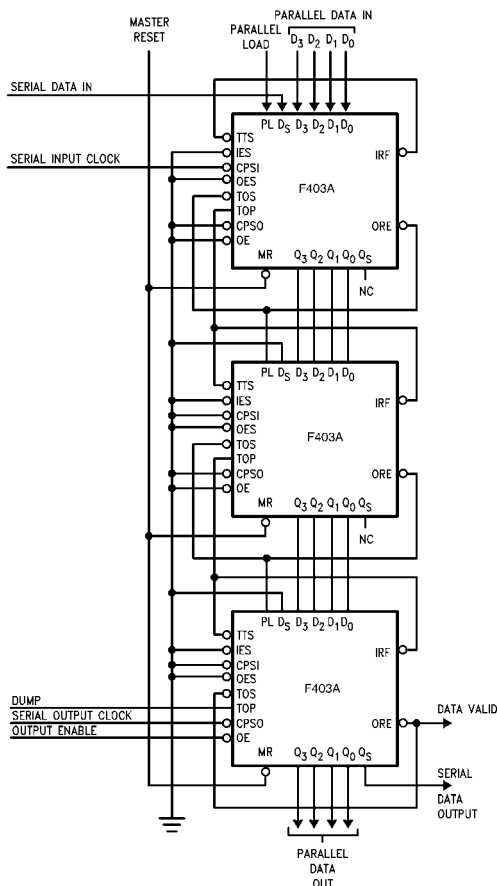

FIGURE 4. A Vertical Expansion Scheme
**Vertical Expansion—** The 74F403A may be vertically expanded to store more words without external parts. The interconnection is necessary to form a 46-word by 4-bit FIFO are shown in Figure 4. Using the same technique, and FIFO of  $(15n + 1)$ -words by 4-bits can be constructed, where  $n$  is the number of devices. Note that expansion does not sacrifice any of the 74F403A's flexibility for serial/parallel input and output.